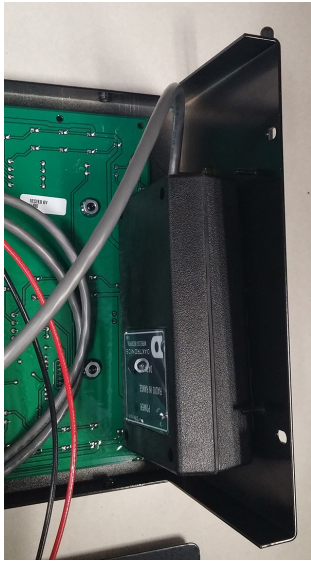

Figure 8: Radio Mounting
6. Remove the plastic strips from the adhesive-backed hook-and-loop fasteners on the back of the radio receiver unit, and stick the unit to the inside right side of the cabinet. Note that the radio receiver unit will be upside down. Refer to **Figure 8**.